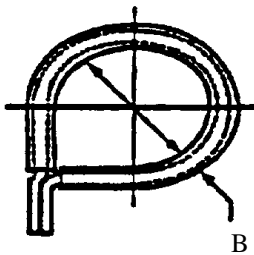

Figure 24. MS21919 Clamp
- c. W: Indicates the base of the open end of the loop has a wedge to assist locking the clamp together (Figure 24). Applicable for sizes 2 through 48 only.